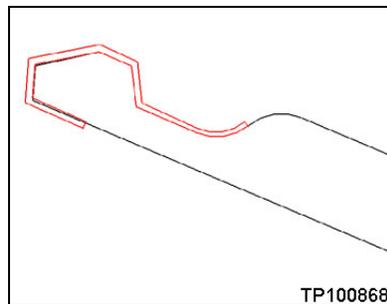

Figure 9
- Wrap the felt cloth tape around the edge of the rear rib (see Figure 9).